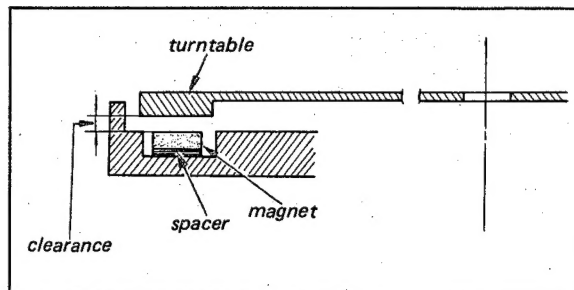

Fig. 2-8. Electromagnetic brake adjustment
1. First of all, confirm that the turntable does not touch with the magnet on the turntable base (See Fig. 2-8). If it does, adjust the magnet height by replacing its mounting plate.